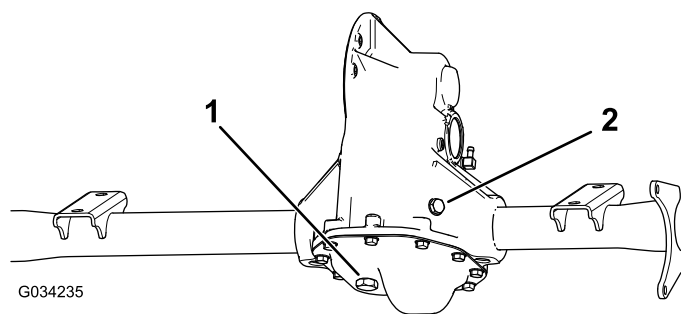

Figure 46
2. Remove the fill plug on the transaxle (Figure 46).
3. If the fluid level is low, remove the fill plug and add the specified fluid until it runs out of the hole (Figure 46).
1. Align a drain pan under the drain plug (Figure 46).
2. Remove the fill plug and the seal (Figure 46).
3. Remove the drain plug and the seal, and allow the fluid to drain completely (Figure 46).